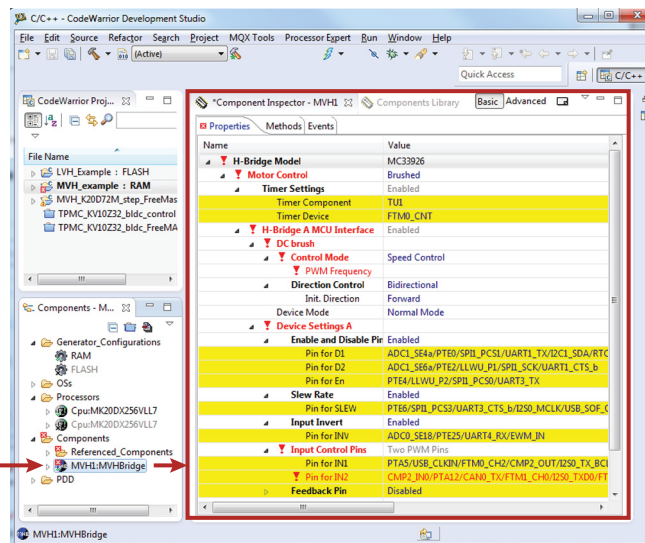

Figure 37. Select the Component
2. Figure 37 shows the Components panel after the component has been added. To view the Component Inspector options, double click on the MVHBridge component in the Components panel.